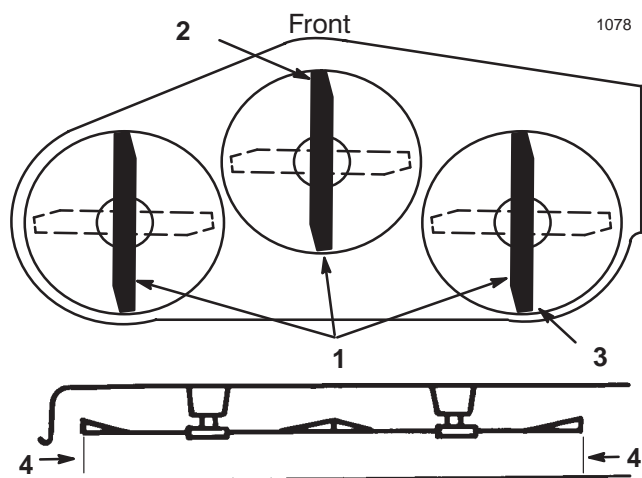

Figure 42
7. Set the height-of-cut at 3 inch (76 mm) and carefully rotate the blades so they are facing front to rear (Fig. 42).
8. Measure between the tip of the front blade (Fig. 42) and the tip of the rear blade to the flat surface. If the front blade tip is not 1/16–5/16 inch (1.6–7.9 mm) lower than the rear blade tip, adjust the front trunnion rods.
11. After adjusting both trunnion rod yokes evenly, secure the yokes with the hairpin cotters. Check the front-to-rear level again. Continue adjusting the yokes until the front blade tip is 1/16–5/16 inch (1.6–7.9 mm) lower than the rear blade tip (Fig. 42).